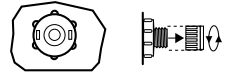

Figure 13.2a
2. Locate the drain valve located on the front left corner on the black plastic pan. Hold the larger (rear) drain valve body to prevent it from turning, then loosen and remove the front cap to expose the underlying male hose threads, Figure 13.2a.